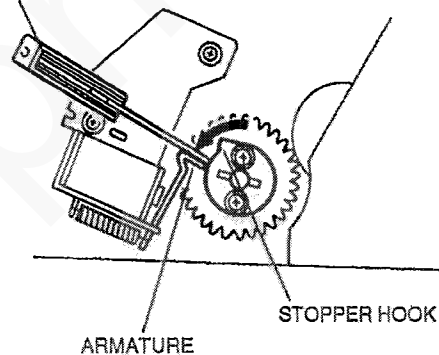

Figure 3. Checking stopper hook clearance
- (Figure 3) Turn the cassette feed roller one more turn, until the clutch spring claw touches the armature of the cassette feed solenoid, then measure the clearance between the armature and the stopper hook.